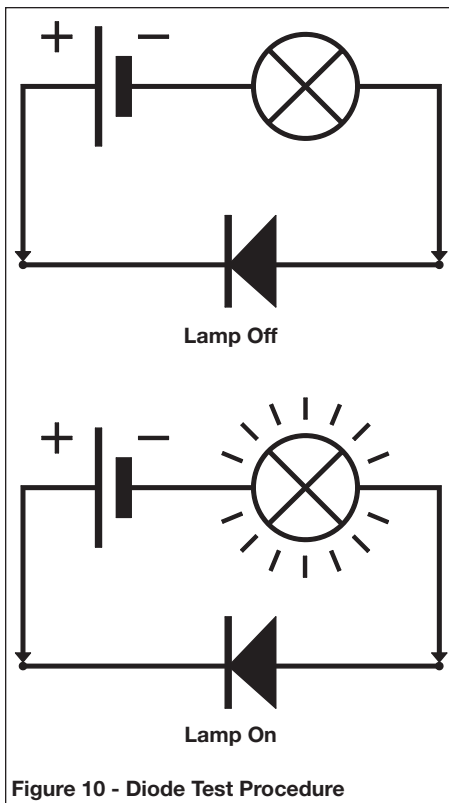

Figure 10 - Diode Test Procedure
2. This check can also be done using a 12 Volt battery and a light bulb as shown in Figure 10.